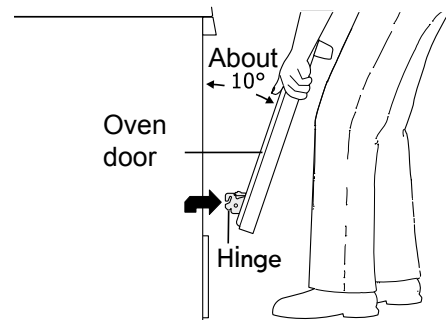

Figure 3 - Holding door for removal
5. With the oven door in this position (Fig. 3), lift and carefully pull the oven door away from the oven frame. To avoid finish damage, be careful not to allow the oven door hinges to contact the oven front frame.